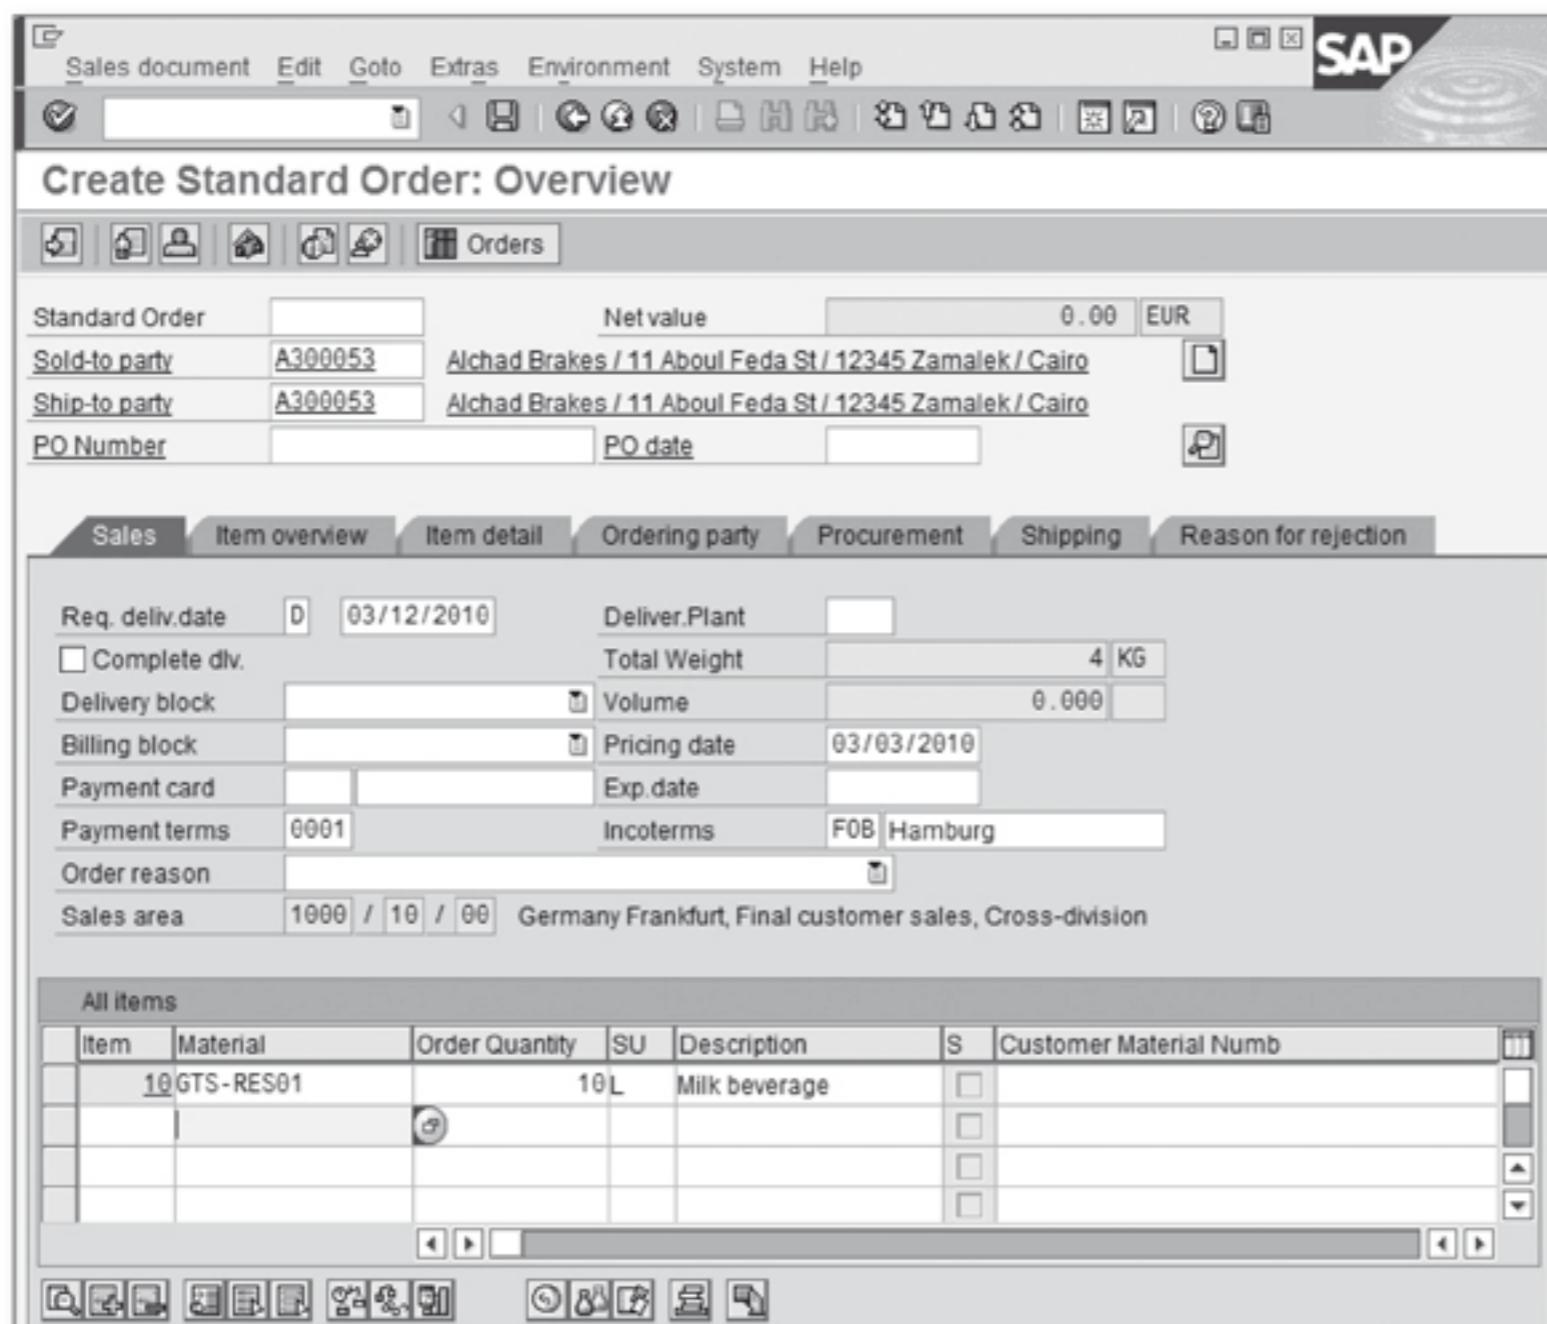

Figure 3.18 Create Standard Order – Material Determination Completion
4. Press **Enter** to continue. It's important to note that the material determination will substitute the description text you've entered with the valid SAP material number, as you can see in Figure 3.18.